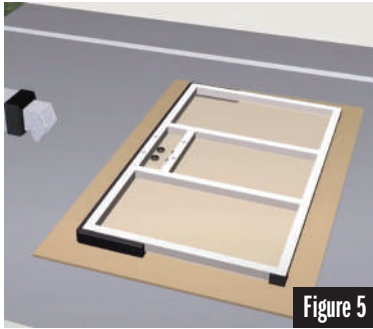

Figure 5
- A few feet in front of the Base Pole, place the Backboard (Part A) on top of cardboard, a blanket or the provided foam (this will prevent the backboard from getting scratched). See Figure 5.